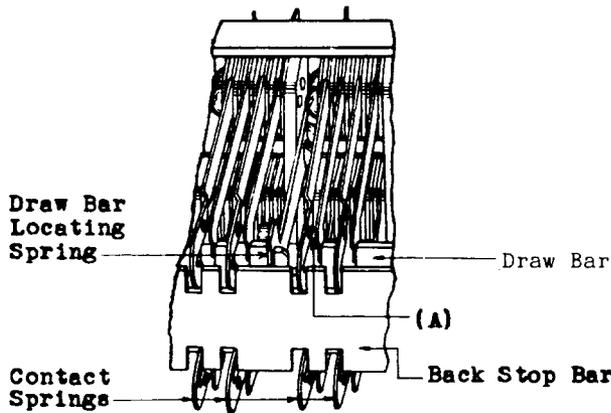

Fig. 5
(a) 229 and 230 Type Relays - Fig. 5 (A) -